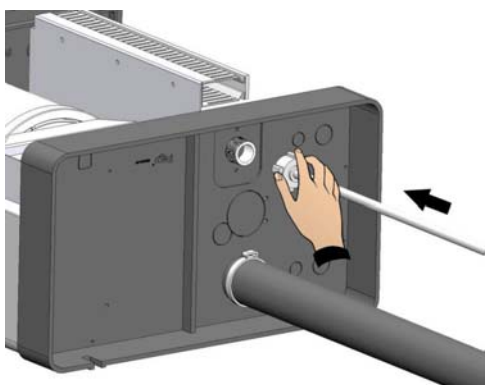

Fig. 11
7. Connect the water inlet line to the $\frac{3}{4}$ GAS connector of the solenoid valve underneath the humidifier (fig. 11 e 12).